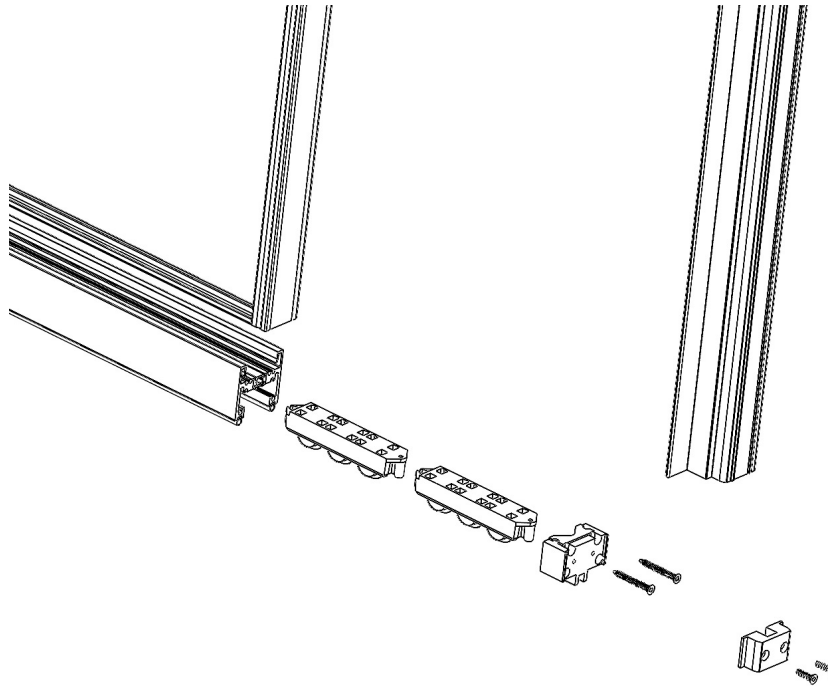

Figure 10
5. Determine the number of roller assemblies needed per panel and connect by sliding one (1) roller assembly onto the other. Continue this process for all required rollers. Once complete, slide the end sweep onto the roller assembly and set roller assemblies in front of panel.
6. Taking care not to scratch or shift the lead panel over. With a pry bar, lift the panel high enough to slide the roller assembly system into place. Ensure that all rollers rest onto the track cap and roll freely. See **Figure 10**.